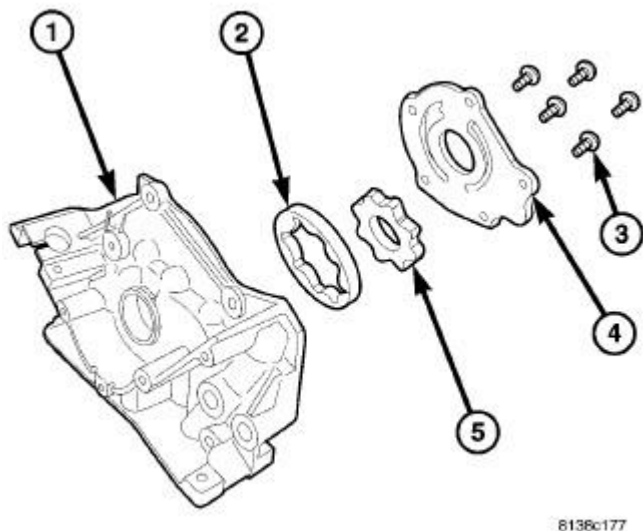

Fig. 438: Oil Pump Assembly
2. Tighten cover screws (3) to 12 N.m (105 in. lbs.). Refer to **Fig. 438**.